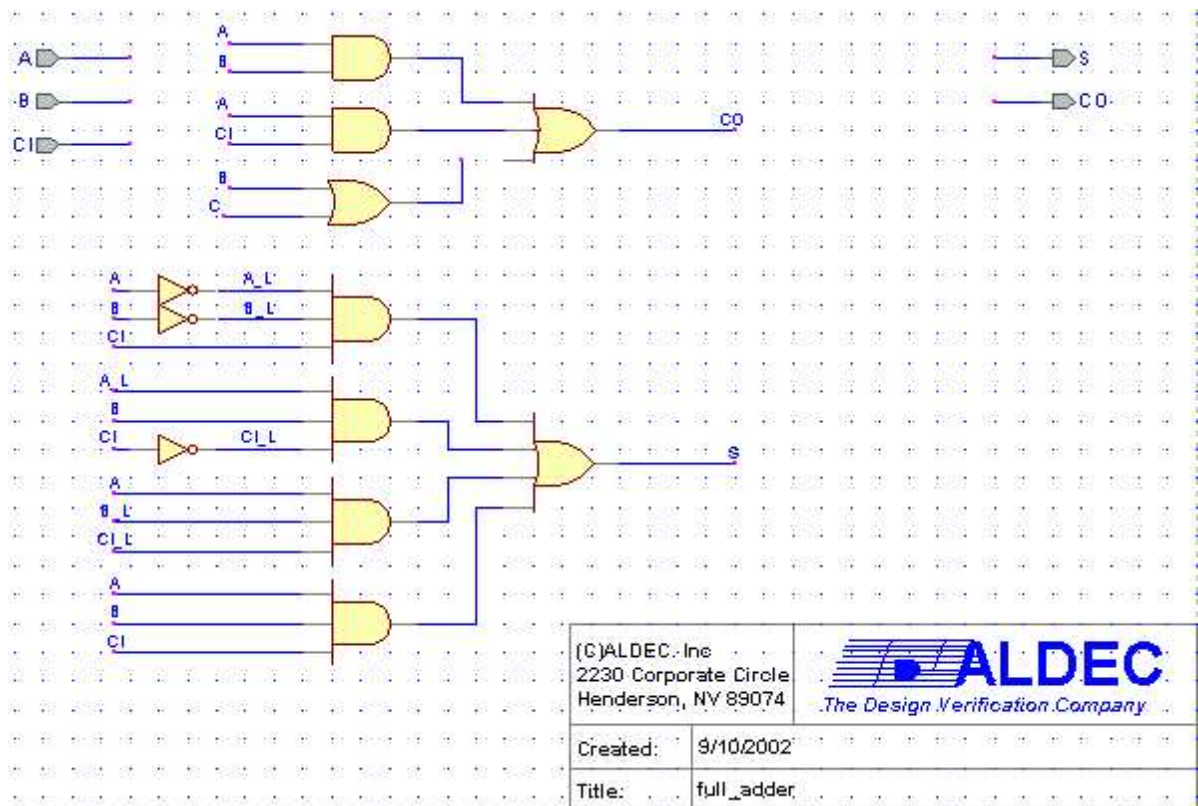

Figure 43
We will walk through a simple, yet common, scenario with a schematic that contains errors and warnings. Some of these problems can be pinpointed and solved by simply running a check diagram and reviewing the DRC. However, the DRC cannot find and report your logic errors. What do you do if you have checked your design, compiled successfully, and when you run your simulation, your results are flawed? The techniques below will show you how to use the tools provided by Active-HDL to trouble-shoot your design, and fix some of the most common mistakes. In the following steps we used Figure 43 to demonstrate the debugging process.
1. First, we saved, and checked our design. When checking the schematic shown in Figure 43, Active-HDL generated the DRC report shown below in Figure 44.